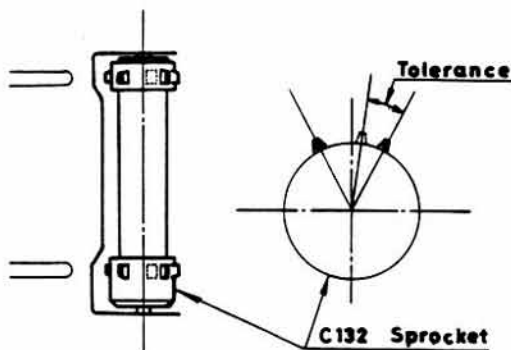

Fig. 8
- ° Winding mech. is in the cocked positin, lightly push Sprocket toward the film aperture side to eliminate its play, Sprocket must be positioned in the range as shown in Fig. 8.
A pair of Sprocket teeth should be positioned between the symmetrical position with the center of Sprocket and slightly shifted toward Winding lever side. Refer to Fig. 8.